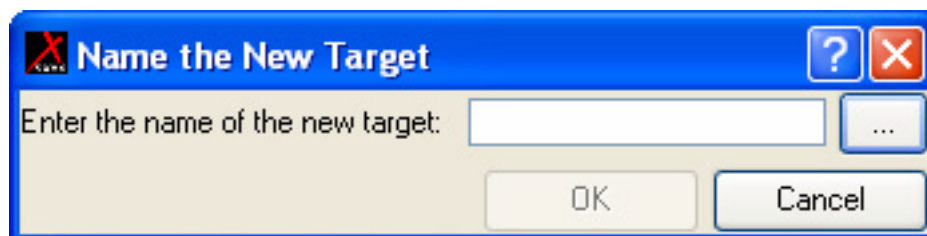

Figure 52. Name the New Target Window
Name the New Target window (Figure 52) is displayed.
- In the **Name the New Target** window (Figure 52), enter the new name for the target and click **OK**, the target name changes.
- Select the target you wish to copy and click **Copy**. **Name the New Target** window (Figure 52) is displayed.